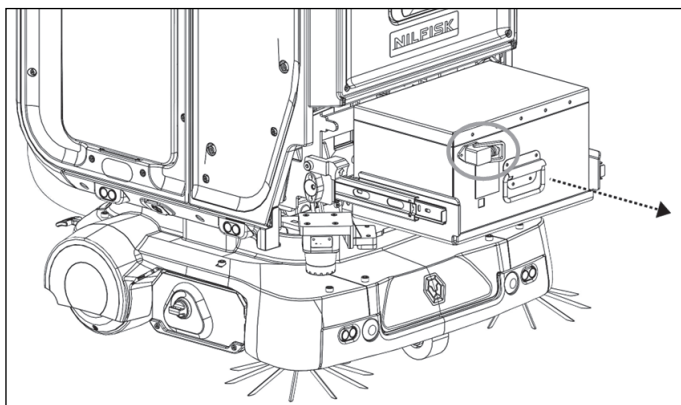

Figure 69
2. Disconnect the battery plug from the battery by pulling the handle on the battery plug. One may have to pull firmly (Fig. 69).
3. Lift the battery tray latch and at the same time, pull the battery handle towards the front of the robot, the battery tray will slide out (Fig. 69).